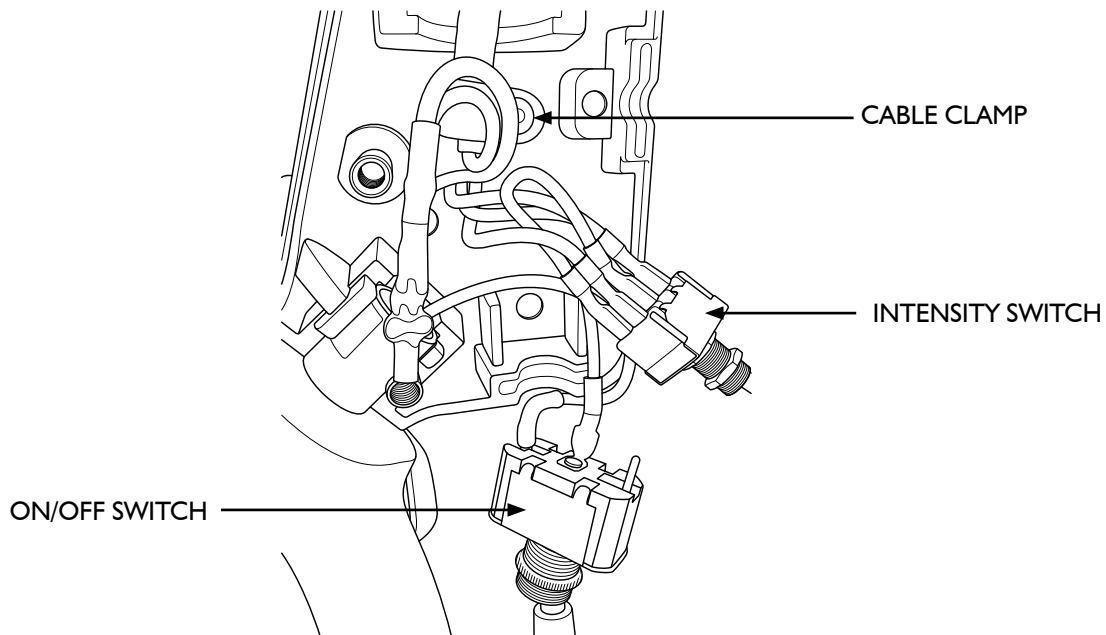

FIGURE 4
3. Using wire cutters (**Figure 4**):
4. Remove the cable clamp from inside of the housing. **Figure 4**.